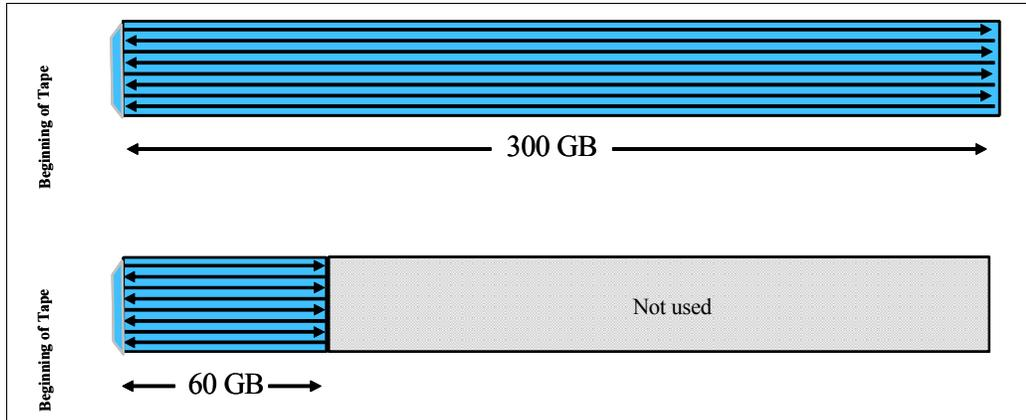

Figure 2-47 A 300 GB tape scaled by 20% to 60 GB
*Capacity scaling* of the tape medium is the action of modifying internal formatting indicators in the medium (and in the cartridge memory (CM) chip) so that the normal serpentine track format is altered to limit the recorded portion of the tape to a specified fraction of the linear dimension of the medium (Figure 2-47 on page 85). This action is normally accomplished by the drive responding to a command, in this case, a Mode Select command. It pertains only to the currently loaded cartridge; it is not persistent.